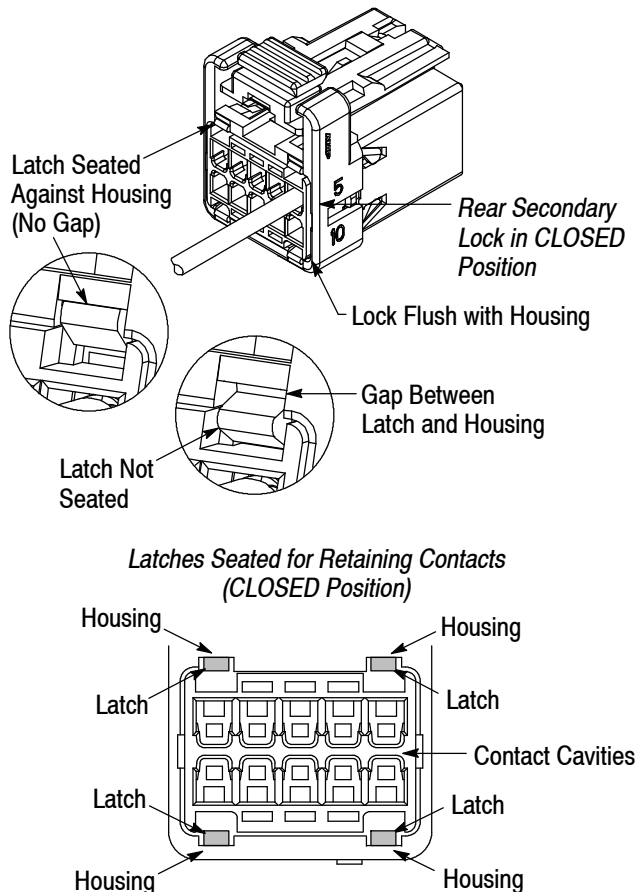

Figure 3
4. After all contacts are inserted, push the rear secondary lock into the housing until the lock is in the CLOSED position. The rear secondary lock is in the CLOSED position when it is flush with the housing and the four latches engage the housing. Check to make sure that each latch is seated against the housing, and that there is no gap between the latch and the housing. See Figure 3.